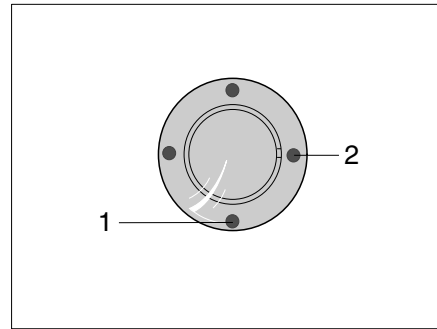
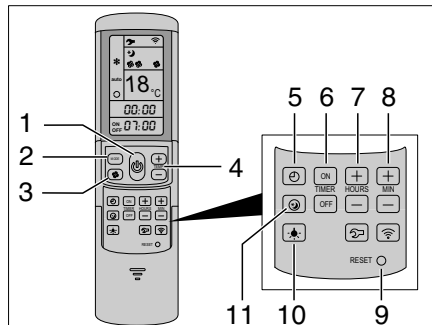

Fig. 317 Infrared receiver/function display
Fig. 318 Remote control
The air conditioning unit is located on the roof of the vehicle. The remote control (Fig. 318) for the air conditioning unit is located in the kitchen area.
- Connect the vehicle to the 230 V power supply. The air conditioning unit is ready to operate. The blue LED (Fig. 317,1) lights up.
- To switch on press the button (Fig. 318,1) on the remote control. The blue LED (Fig. 317,1) flashes.
- Set the desired operating mode using the MODE button (Fig. 318,2).
- If necessary, set the desired fan level by using the button (Fig. 318,3) and the room temperature by using the buttons (Fig. 318,4).
When the temperature set on the remote control is reached, the blue LED (Fig. 317,1) goes out, the compressor switches off and the circulation fan continues to run.
- To switch off press the button (Fig. 318,1) on the remote control again.
- To carry out programming, switch on the air conditioning unit by using the button (Fig. 318,1) on the remote control.
- Set the desired operating mode by using the button (Fig. 318,2) and the room temperature by using the buttons (Fig. 318,4).
- Use the buttons (Fig. 318,6) to select the desired function:
- Use the buttons (Fig. 318,7 and 8) to select the desired switching time (15 minutes to 24 hours).
- Confirm the setting with the buttons "ON" or "OFF" (Fig. 318,6).